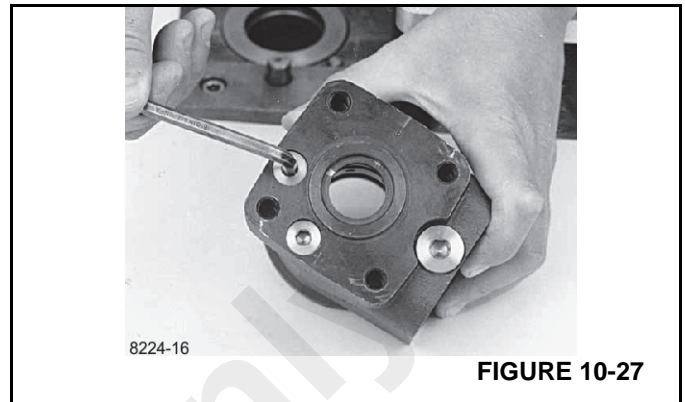

FIGURE 10-27
14. Press the neutral position springs (9) out of their slots in the spool.
15. Remove dust seal and O-ring / Kin-ring / Roto Glyd (Figure 10-27).
16. Remove plugs from shock valves using a 6 mm Allen wrench (Figure 10-27).